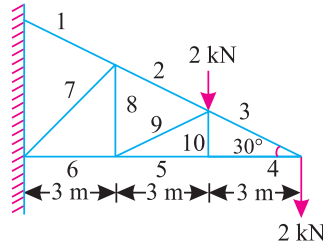

Fig. 14.37.
3. Find graphically or otherwise the forces in the members 2, 5, 9 and 10 of the truss shown in Fig 14.37. Also state whether they are in tension or compression.